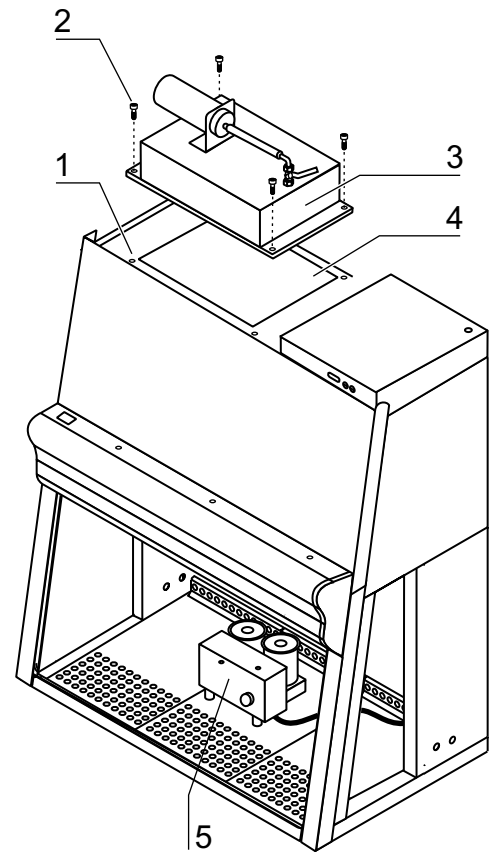

Fig. B1,
2. **Fig. B1:** Seal the exhaust aperture [4] absolutely airtight using the disinfection hood [3]: Install the disinfection hood to the premounted threaded holes [1] using the supplied screws [2].